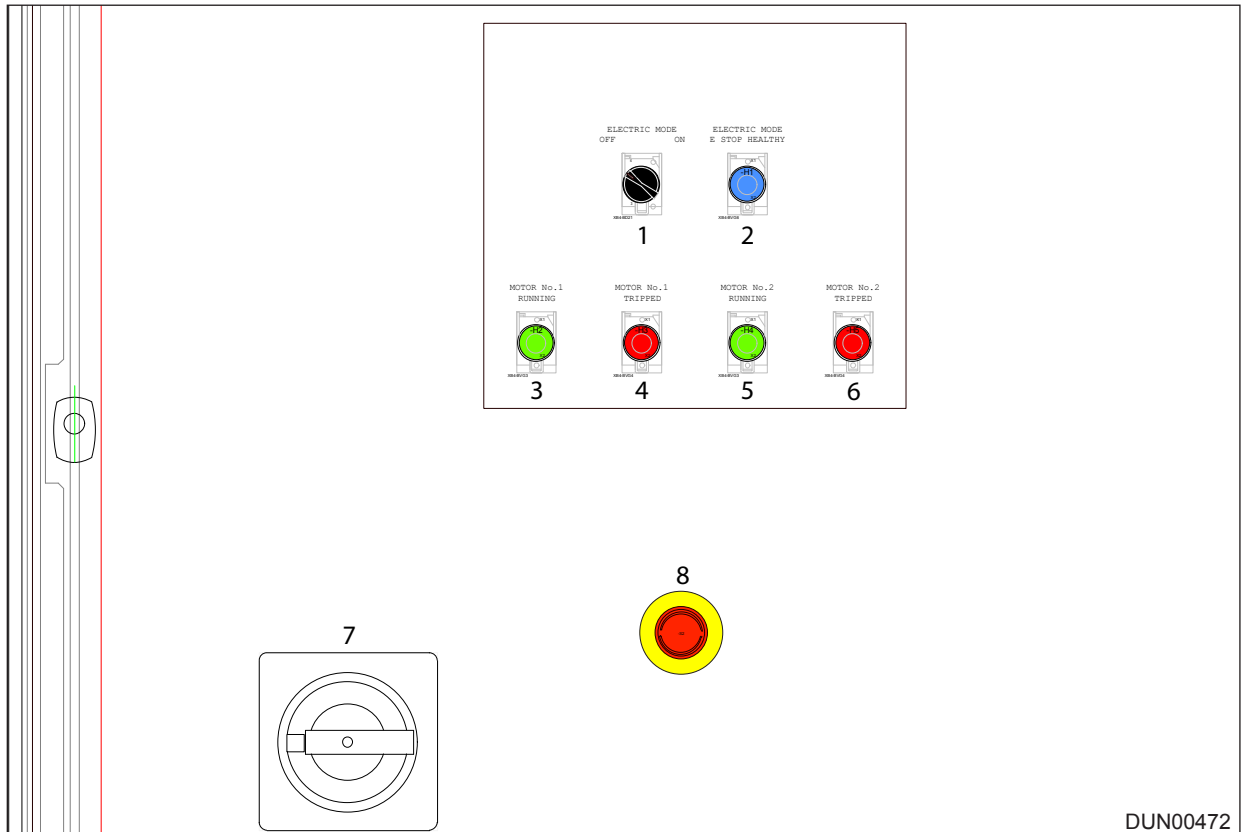

Figure 7.19 - Tier 4 Dual Power Control Panel
1. To allow the machine to operate in Electric mode, ensure the electric mode switch (Item 1) is ON, Reference: Figure 7.19.
2. Switch the isolator switch (Item 7) on the control panel to on, Reference: Figure 7.19.
- » If all Emergency Stops on machine are OK then “Electric Mode Estop Healthy” Lamp (Item 2) should illuminate, Reference: Figure 7.19.